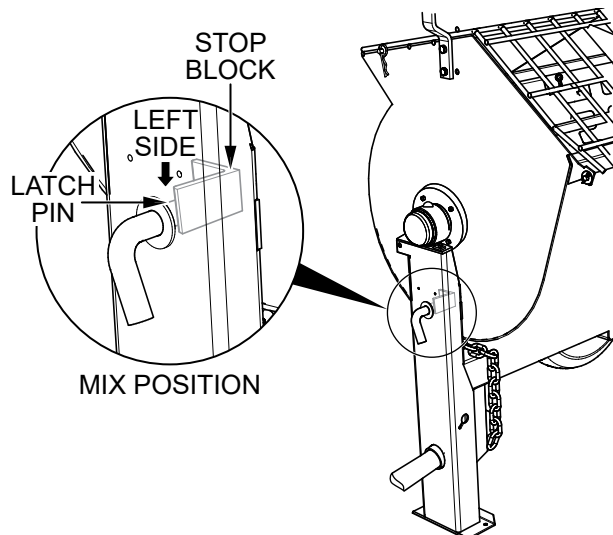

Figure 28. Drum Latch Pin (Mix Position)
1. Pull the drum latch pin (Figure 28) and place it on the **left side** (mix position) of the stop block.